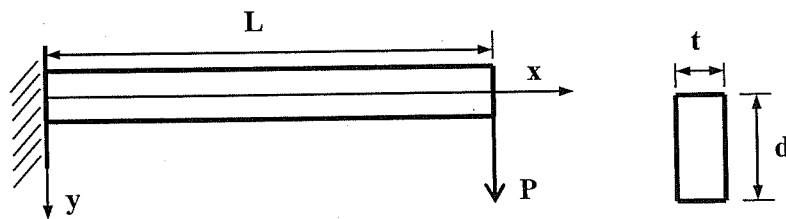

Figure Q2
- (ii) A cantilevered beam with length  $L$  (breadth and depth are  $t$ ,  $d$ , respectively) is loaded with a concentrated load ( $P$ ) as shown in Figure Q2.